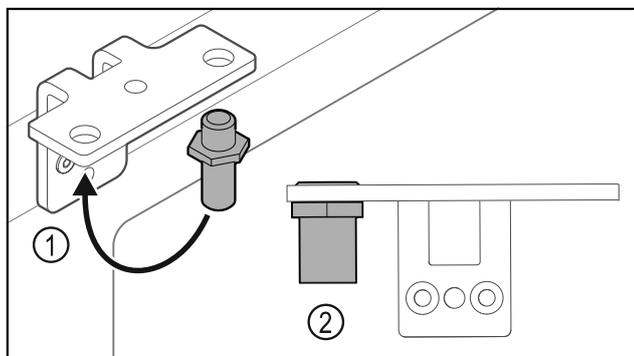

Fig. 25
- ▶ Put the pin back into the hinge Fig. 25 (1).
- ▶ Tighten the pin Fig. 25 (2) to a **torque of 12 Nm**.